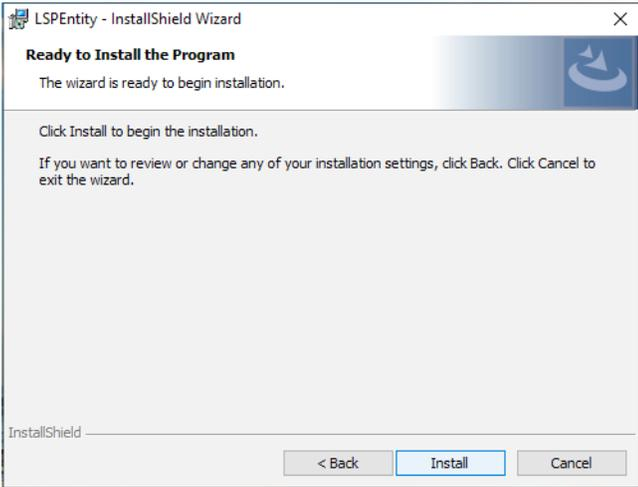

Figure 4
6. When the "Ready to Install" window appears, click Install (Figure 4).